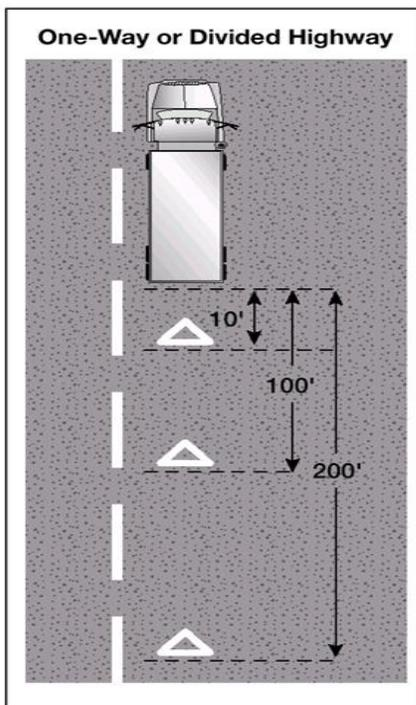

Figure 2.8
- ✓ If you must stop on or by a one-way or divided highway, place warning devices 10 feet, 100 feet, and 200 feet toward the approaching traffic. See Figure 2.8.